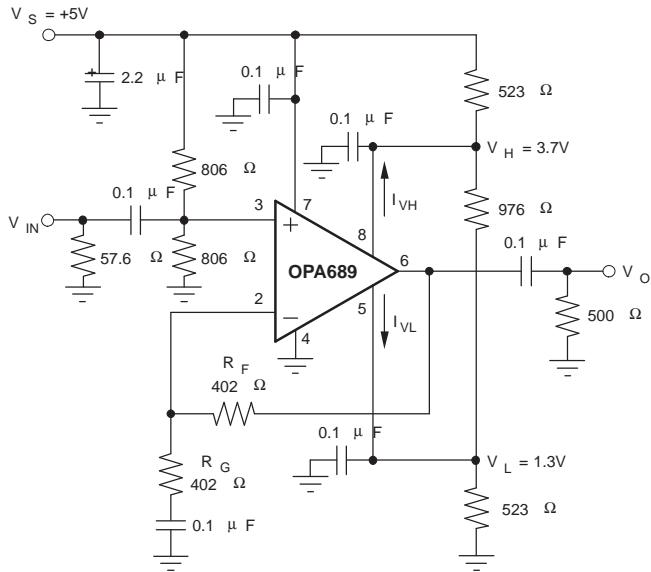

Figure 31. AC-Coupled, Single Supply Amplifier
(3)  $I_{VH}$  ( $V_H$  bias current) is positive and  $I_{VL}$  ( $V_L$  bias current) is negative under these conditions (see Note 3, Figure 31, and Figure 37).
(4) Limiter feedthrough is the ratio of the output magnitude to the sinewave added to  $V_H$  (or  $V_L$ ) when  $V_{IN} = 0$ .
(5) Current is considered positive out of node.
Figure 30 shows a non-inverting gain amplifier for dual-supply operation. This circuit was used for AC characterization of the OPA689, with a 50- $\Omega$  source, which it matches, and a 500- $\Omega$  load. The power-supply bypass capacitors are shown explicitly in Figure 30 and Figure 31, but will be assumed in the other figures. The limiter voltages ( $V_H$  and  $V_L$ ) and their bias currents ( $I_{VH}$  and  $I_{VL}$ ) have the polarities shown.
Figure 31 shows an AC-coupled, non-inverting gain amplifier for single 5-V supply operation. This circuit was used for AC characterization of the OPA689, with a 50- $\Omega$  source, which it matches, and a 500- $\Omega$  load. The power-supply bypass capacitors are shown explicitly in Figure 30 and Figure 31, but will be assumed in the other figures. The limiter voltages ( $V_H$  and  $V_L$ ) and their bias currents ( $I_{VH}$  and  $I_{VL}$ ) have the polarities shown. Notice that the single-supply circuit can use three resistors to set  $V_H$  and  $V_L$ , where the dual-supply circuit usually uses four to reference the limit voltages to ground.
voltages can break down internal junctions, possibly leading to catastrophic failure. Single-supply operation is possible as long as common mode voltage constraints are observed. The common mode input and output voltage specifications can be interpreted as a required headroom to the supply voltage. Observing this input and output headroom requirement will allow design of non-standard or single-supply operation circuits. Figure 31 shows one approach to single-supply operation.
When the limiter voltages need to be within 2.1 V of the supplies ( $V_L \leq -V_S + 2.1$  V or  $V_H \geq V_S - 2.1$  V), consider using low impedance buffers to set  $V_H$  and  $V_L$  to minimize errors due to bias current uncertainty. This will typically be the case for single supply operation ( $V_S = 5$  V). Figure 31 runs 2.5 mA through the resistive divider that sets  $V_H$  and  $V_L$ . This keeps errors due to  $I_{VH}$  and  $I_{VL} < \pm 1\%$  of the target limit voltages.